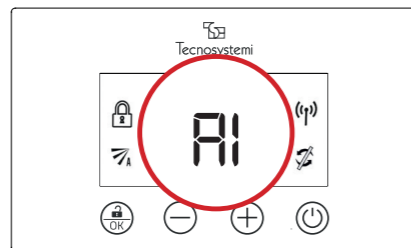

Fig 12
5.3 **A1, A2, A3.** With reference to figures 12,13,14, the three positions indicated refer to the ON-OFF movement of the damper. Press the  or  keys to select the desired position/adjustment and confirm with .